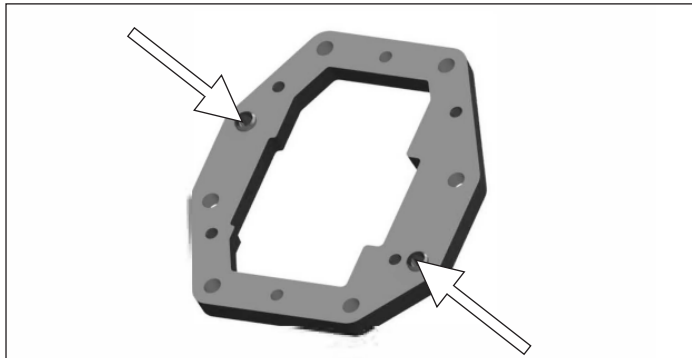

Figure 36
(4) M10 x 35 socket head cap screws, torque to 50-55 lb-ft [67-75 N-m] (**Fig. 36**).